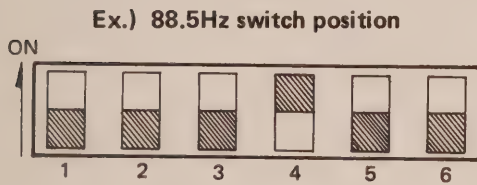

Fig. 1 DIP Switch
1. A six position DIP switch (Fig. 1) has been provided to allow selection of the desired tone frequency, 40 different frequencies are available (See Table 1.).